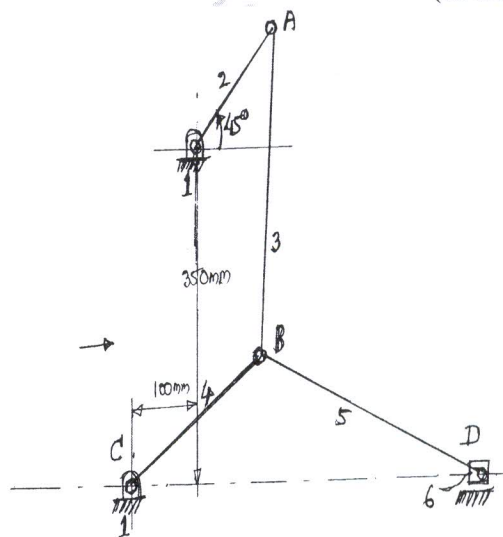

Fig.Q.4(b)
- b. Locate all I-centers for the mechanism shown in Fig.Q.4(b). Find the velocity of the slider by I-center method $\omega_2 = 20 \text{ r/s}$ CCW. Take $OA = 180\text{mm}$, $AB = 360\text{mm}$, $BC = 250\text{mm}$ and $BD = 540\text{mm}$. (15 Marks)